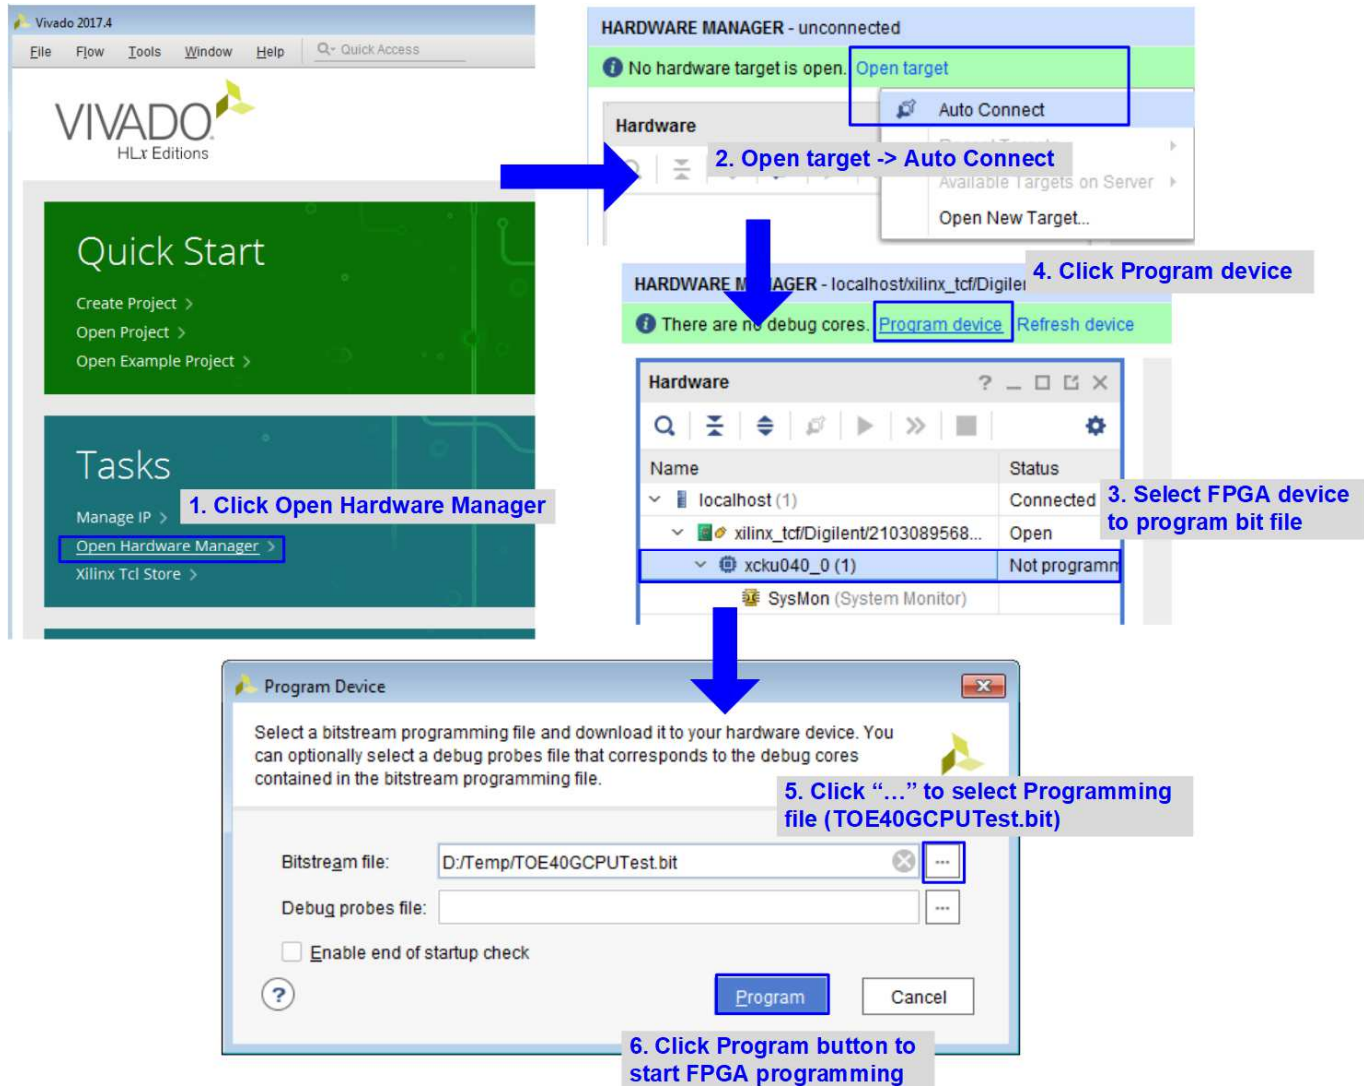

Figure 4-7 Program FPGA by Vivado for KCU105
b) For KCU105, configure FPGA by using Vivado, as shown in Figure 4-7.